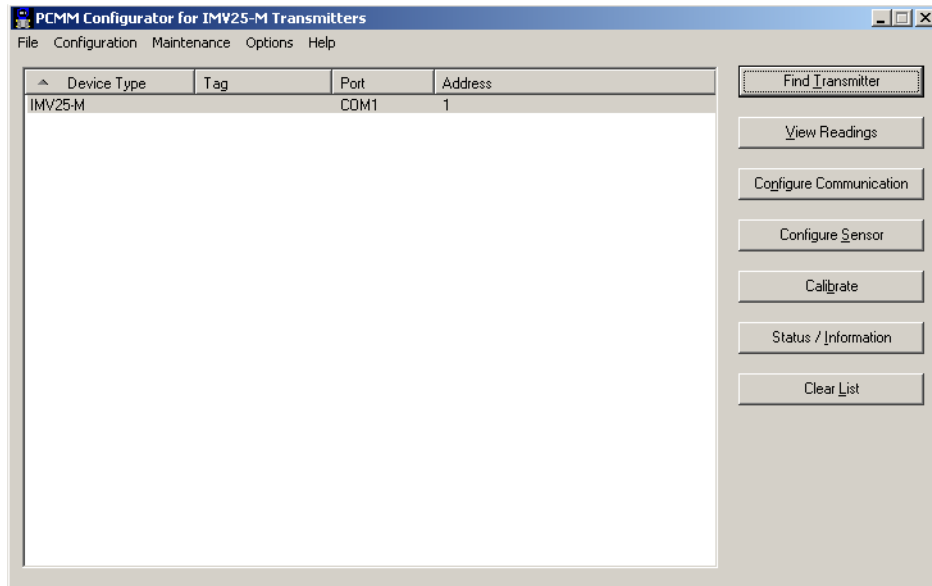

Figure 36. PCMM Configurator Main Window
1. To configure the sensor parameters click on the transmitter in the PCMM Configurator main window listing to highlight it. See Figure 36.
3. The Sensor Settings dialog has four tabs. Click on the applicable tab to display and configure the Differential Pressure (DP), Static Pressure (SP), Temperature, or Display parameters. The **DP** tab is displayed by default.